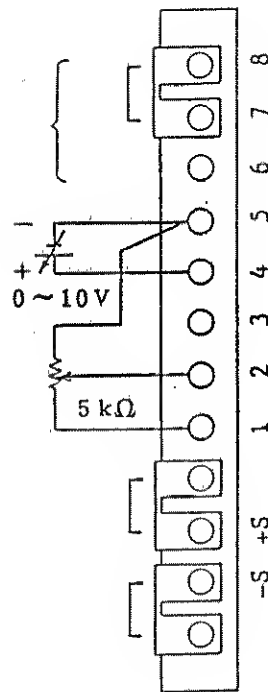

Figure 2.8.1 Remote Voltage Control of Constant Current Mode
6. Connect a 0 - 10 Volt DC source across Rear Panel Strip terminals 4 and 5 as shown in Figure 2.8.1.